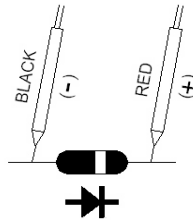

Fig. 3
- b. When connected as shown in Fig. 3, a reverse check on the diode is made. If the diode under test is good, " OL " will be displayed. If the diode under test is defective, " .000 " or other numbers will be displayed. Proper diode testing should include both steps a. and b. above.